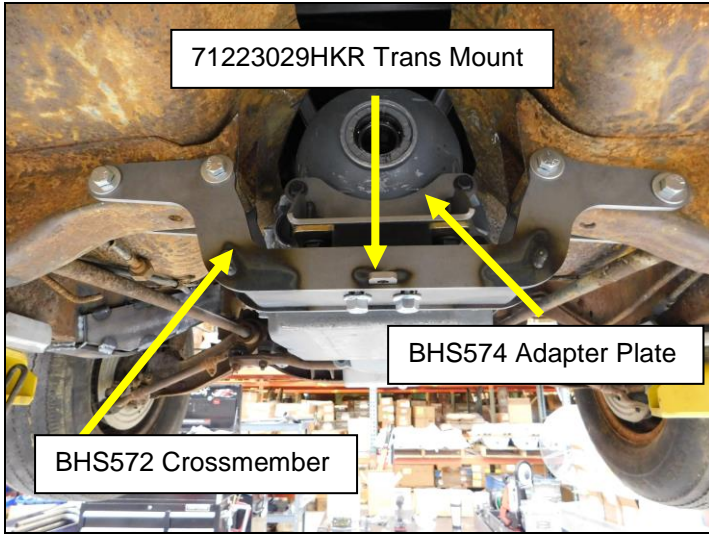
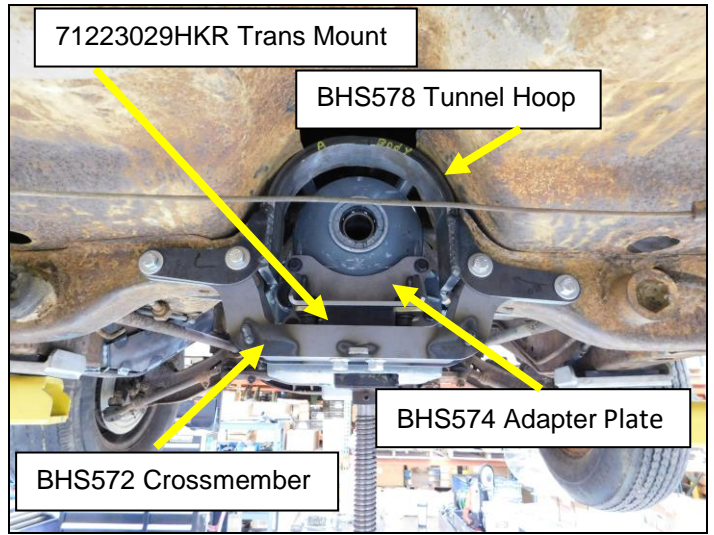

Figure 3
Figure 4
7. **Figure 3** is shown with NAG1 transmission and torsion bar crossmember center hoop removed. **Figure 4** is shown with **BHS578** tunnel hoop installed. It is not necessary to cut the transmission tunnel sheet metal.